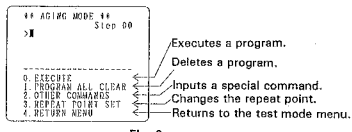

Fig. 11
1) Press the [PLAY] key. (Fig. 11)